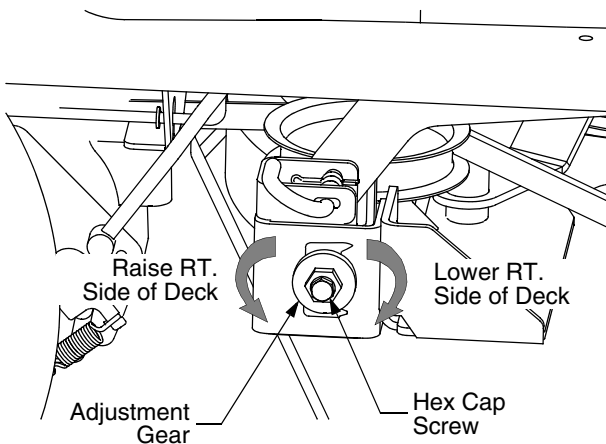

Figure 31
- Loosen, but do not remove, the hex cap screw on the right deck hanger bracket. Refer to Figure 31.
- Level the deck by using a wrench to turn the adjustment gear (found immediately behind the hex cap screw just loosened) clockwise to lower the right side of the deck, or counterclockwise to raise the right side of the deck. See Figure 31.